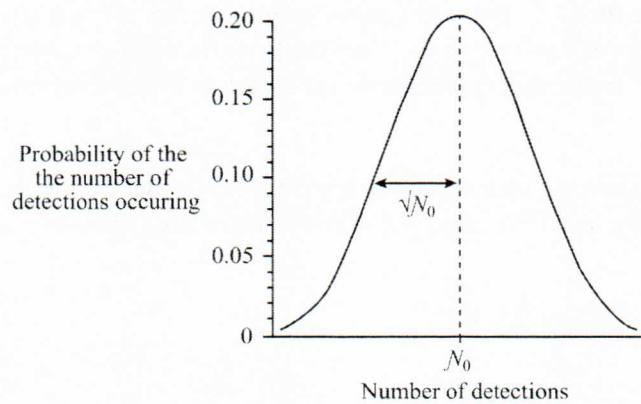

Figure 13.2 The Poisson distribution for large numbers detected. The probability of observing a value \mathcal{N} , if the true value is \mathcal{N}_0 .
13.3.2 In this lab we will be measuring discrete events: either the nucleus decays and we detect it or it does not. The chance of the decay occurring is probabilistic in a uniform time interval. The probability of observing a number of events in a given amount of time is shaped like a Poisson distribution (or a bell-curve, shown in figure 13.2) for large numbers of counts that is centered on \mathcal{N} the most probable value. Here, \mathcal{N} is the number of counts detected